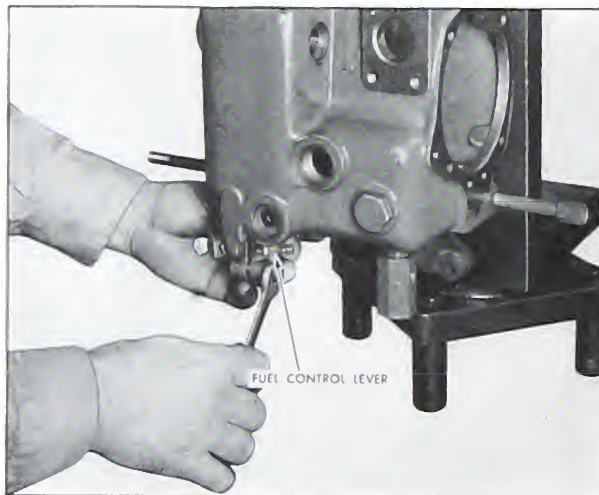

Fig. 5-47. Fuel control lever
10. Drive out the rivet from the fuel control lever that locates it in place on the serrated shaft. Loosen the capscrew and tap the fuel control lever from the eccentric shaft. Fig. 5-47).